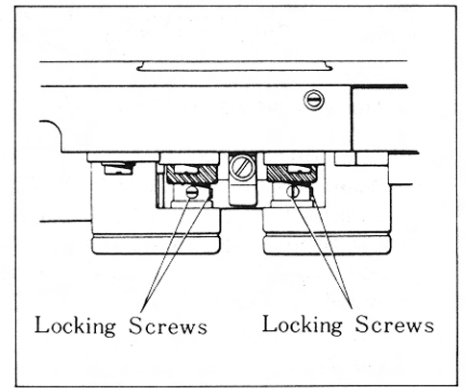

Figure 5
- (f) Loosen the locking screws on each horizontal gear (see Figure 5) to allow a timing adjustment of each hook. A two piece gauge is available for setting the hook timing.